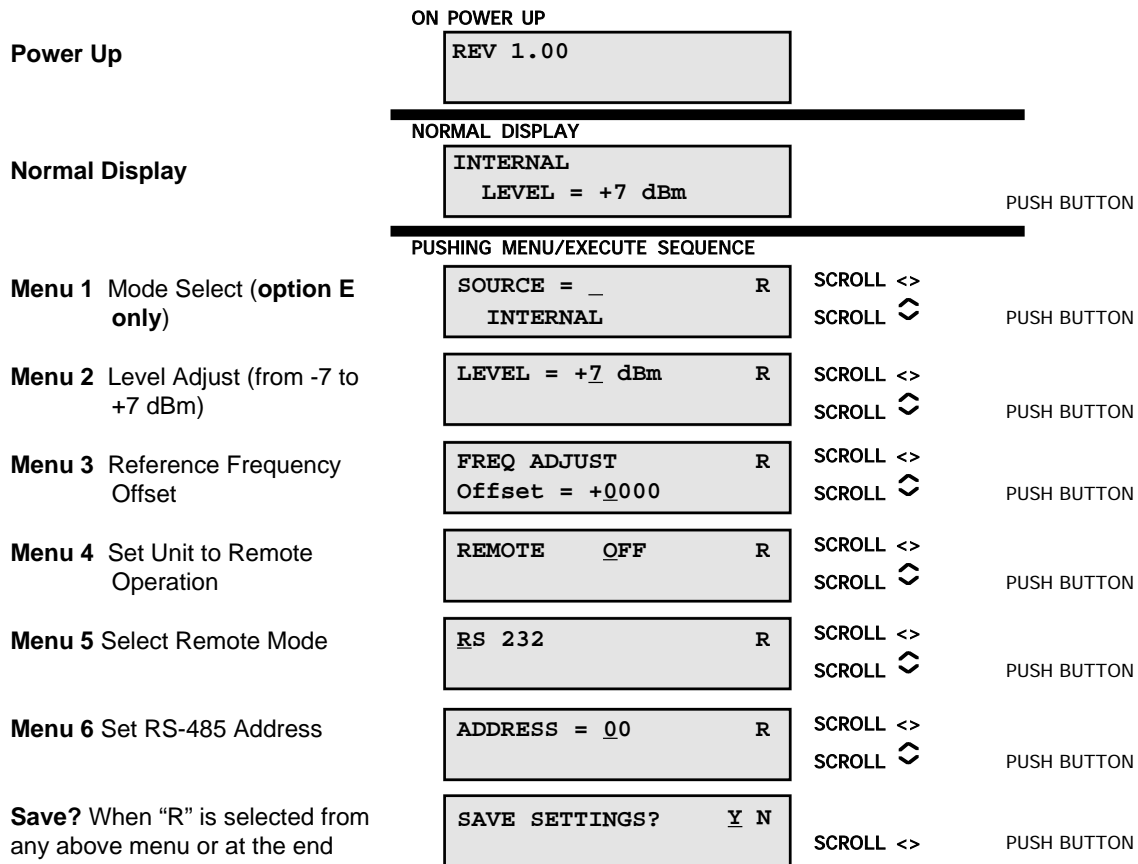

Figure 2.4 Menu Display and Sequence
2.5.1 Functions - This section describes operation of the front panel controls. There are three operator switches, the LCD display and alarm indicator LEDs. All functions for the equipment are controlled by these components. The functions are (see Figure 2.4):